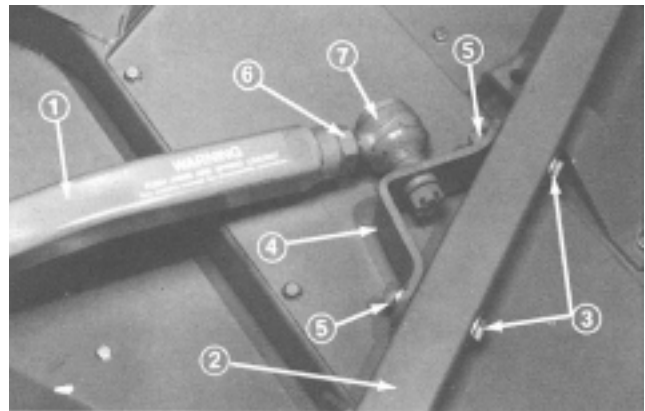

Figure 11
5. Secure ball joint mount to caster arm (Fig. 11) with two cap screws (7/16 – 14 x 3”), flatwasher (15/32 I.D. x 59/64 in. O.D.), and nuts (7/16 – 14). Head of cap screw and the large flatwasher must be outside of caster arm.
6. Tighten large jam nut against front of right push arm (Fig. 11). When tightening jam nut, hold ball joint straight to permit proper oscillation during raising and lowering of the cutting unit.